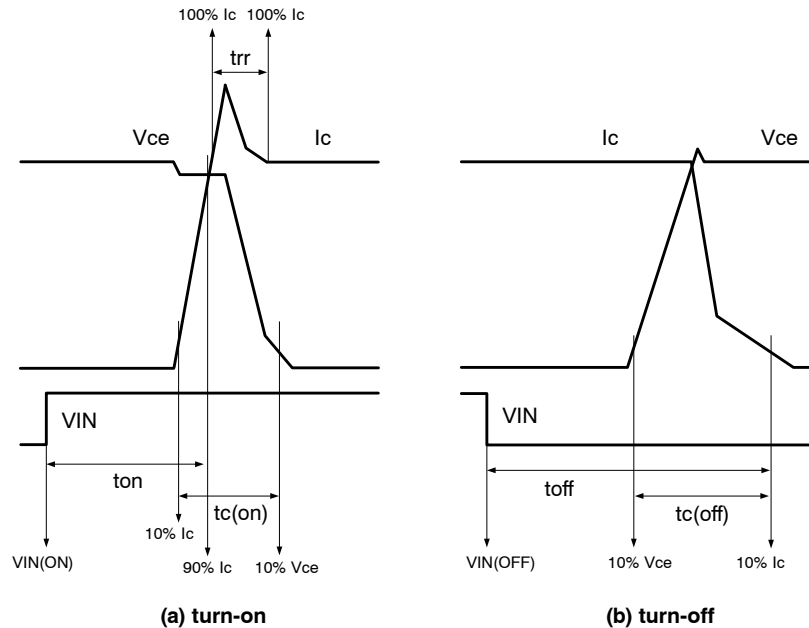

Figure 3. Switching Time Definition
6. ton and toff include the propagation delay of the internal drive IC. tc(on) and tc(off) are the switching times of IGBT under the given gate-driving condition internally. For the detailed information, please see Figure 3.